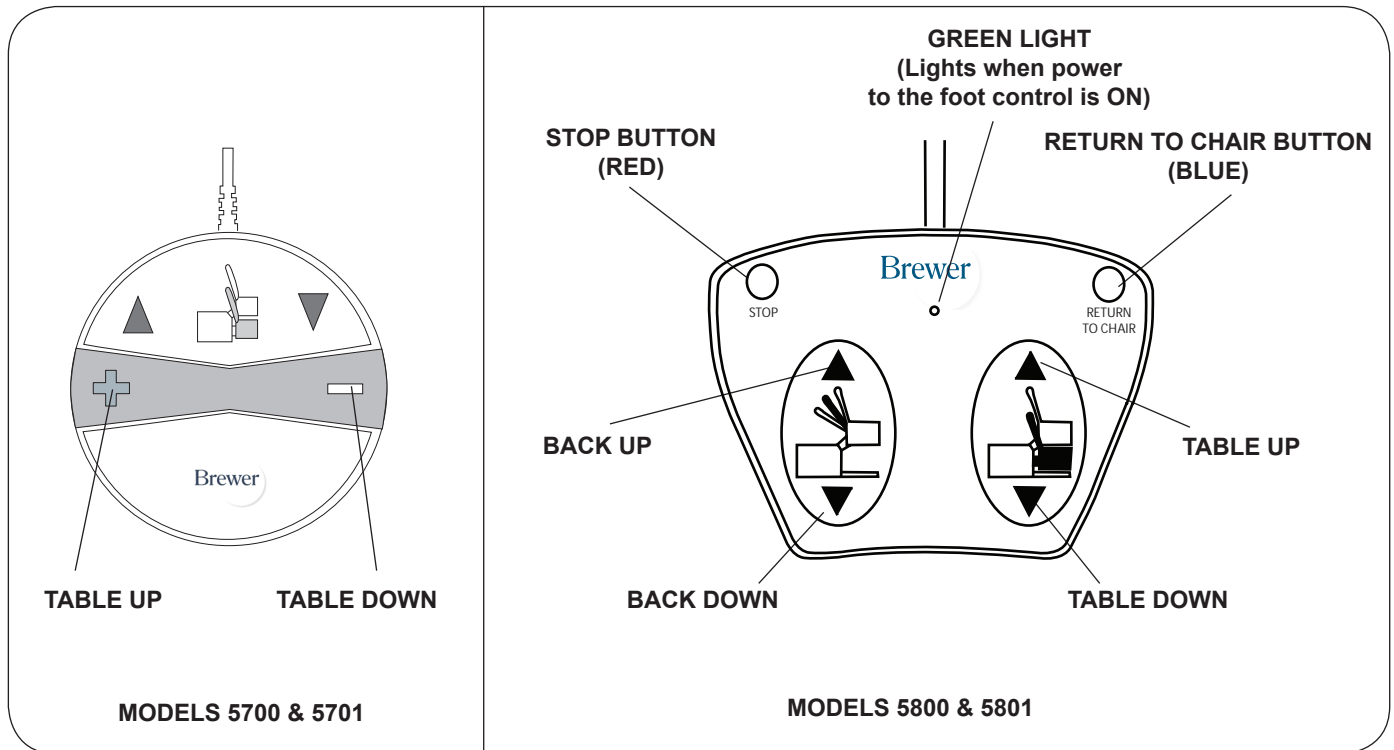
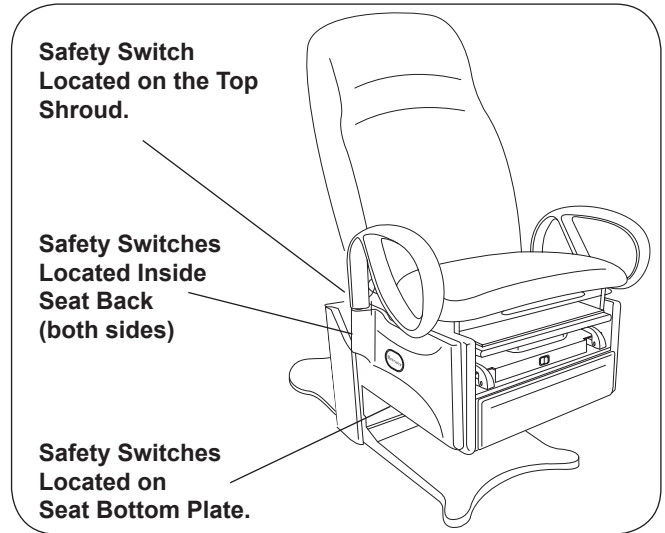

Figure 19. Foot Controls
Figure 20. Seat and Backrest Safety Switches
All models are equipped with switches on the seat bottom (Figure 20) which automatically stop the lowering function of the seat if the seat bottom plate comes into contact with an object as the seat is lowering. To continue lowering the seat, press the "TABLE UP" pedal (Figure 19), clear the obstruction, and continue lowering the seat.
All models are equipped with a switch on the top shroud (Figure 20) which automatically stops the lowering function of the seat and back if the switch is contacted by the backrest. To continue lowering the seat:
- **Models 5800 & 5801** - Depress the "BACK UP" pedal (Figure 19) to clear the switch. When clear of the switch continue lowering the seat.